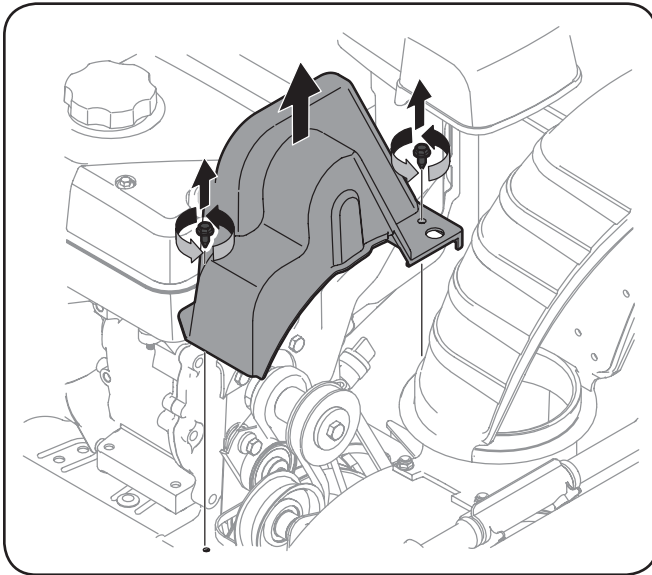

Figure 7-1
2. Remove the plastic belt cover on the front of the engine by removing the two self-tapping screws. See Figure 7-1.